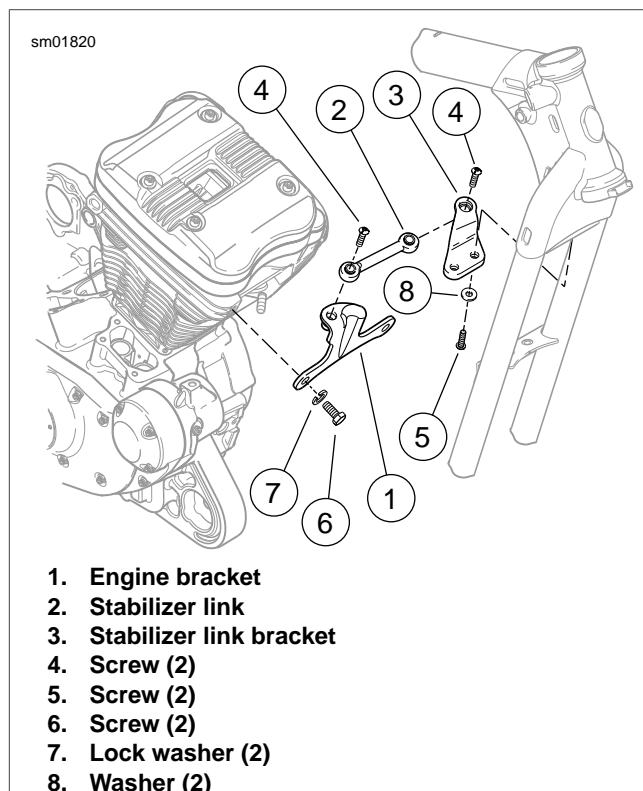

Figure 2-140. Upper Front Stabilizer Link Assembly
2. See Figure 2-140. Remove screws (4) and stabilizer link (2).
- a. **Models with front mounted horn:** remove screws (5), washers (8), horn bracket, and stabilizer link bracket (3) from frame.
- b. **Models with side mounted horn:** remove screws (5), washers (8) and stabilizer link bracket (3) from frame.
4. Remove screws (6), lock washers (7) and engine bracket (1) from front cylinder head.
1. See Figure 2-140. Install screws (6), lock washers (7) and engine bracket (1) to front cylinder head. Tighten to 55-65 ft-lbs (74.6-88.2 Nm).
- a. **Models with front mounted horn:** install stabilizer link bracket (3), horn bracket, screws (5) and washers (8).
- b. **Models with side mounted horn:** install stabilizer link bracket (3), screws (5) and washers (8).
3. Install stabilizer link (2). Secure with screws (4). Tighten to 25-35 ft-lbs (33.9-47.5 Nm).